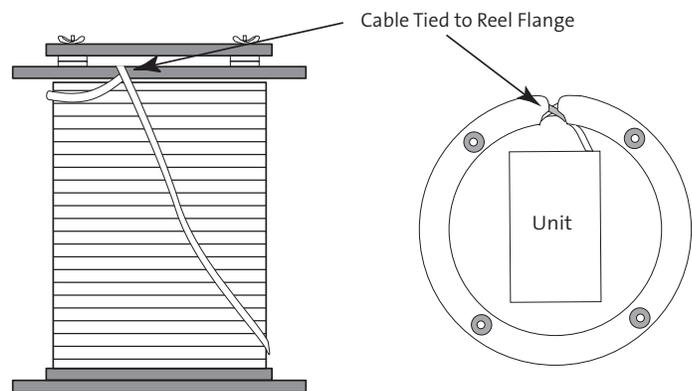

Figure 3
- When removing stubbed units from the CTS reel (Figure 3), remove the cable from the reel before lifting the stubbed unit from inside the reel.